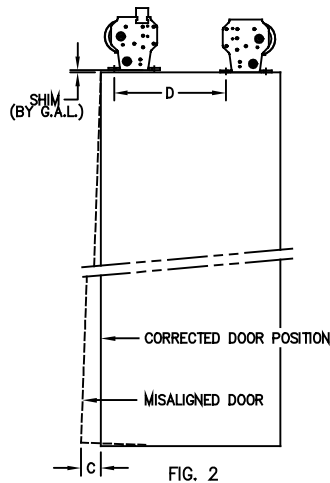

FIG. 2
- 5.- CHECK DOOR MISALIGNMENT IN OPENED AND CLOSED POSITION AND CORRECT IF REQUIRED. FIG. 2